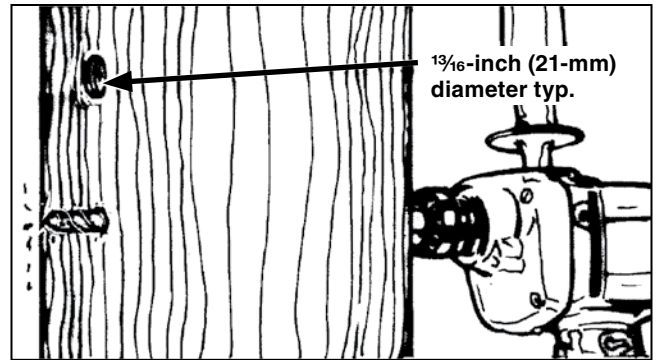

Figure 5. Drill holes for switch-mounting bracket.
STEP 3. Drill two $\frac{13}{16}$ -inch (21-mm) diameter holes through the utility pole as shown and at the desired height for mounting the switch. See Figure 5. Refer to the erection drawing.